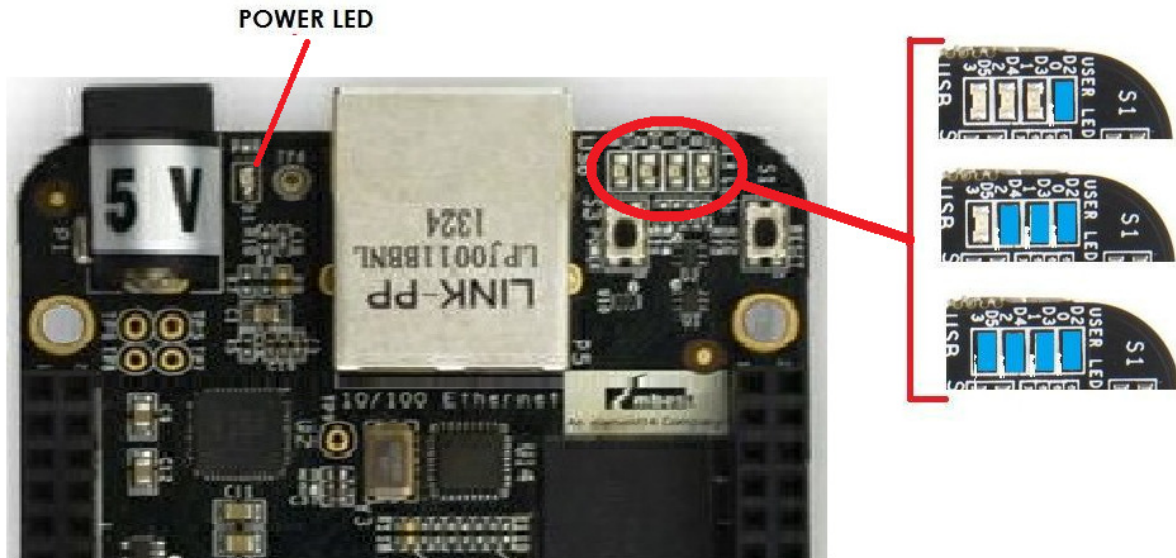

Figure 5 Board Boot Status
4. When the board starts to the booting process started by the process of applying power, the LEDs will come on in sequence as shown in **Figure 5** below. It will take a few seconds for the status LEDs to come on, so be patient. The LEDs will be flashing in an erratic manner as it begins to boot the Linux kernel.